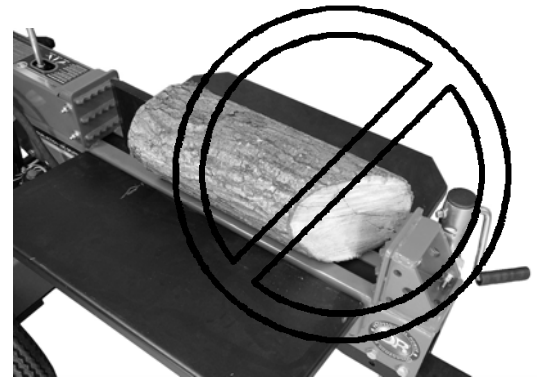

Figure 25
- Make sure both ends of the log you are splitting are cut as square as possible. This will prevent the log from sliding out of position while under pressure (*Figure 25*).